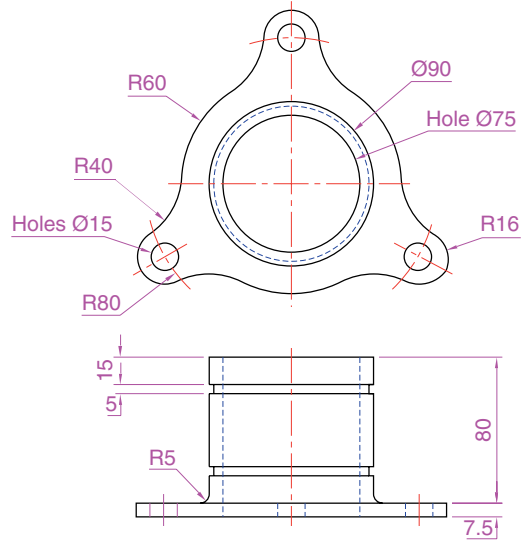

Fig. 17.36 Exercise 5 – two-view drawing
5. Fig. 17.35 shows the rendering of a 3D model drawing of the connecting device shown in the orthographic projection in Fig. 17.36. Construct the 3D model drawing of the device and add a suitable lighting to the scene.